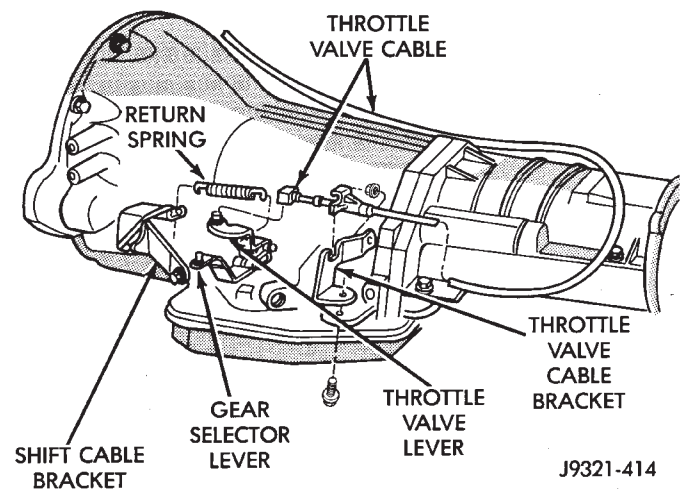

Fig. 291 Throttle Cable Attachment At Transmission
(1) Turn ignition key to OFF position.
(2) Remove air cleaner.
(3) Verify that lever on throttle body is at curb idle position. Then verify that transmission throttle lever (Fig. 291) is also at idle (fully forward) position.
(4) Slide cable off attachment stud on throttle body lever.
(5) Compare position of cable end to attachment stud on throttle body lever: